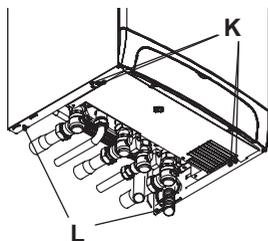

Fig. 6.14
- Remove the screws K (Fig. 6.14).